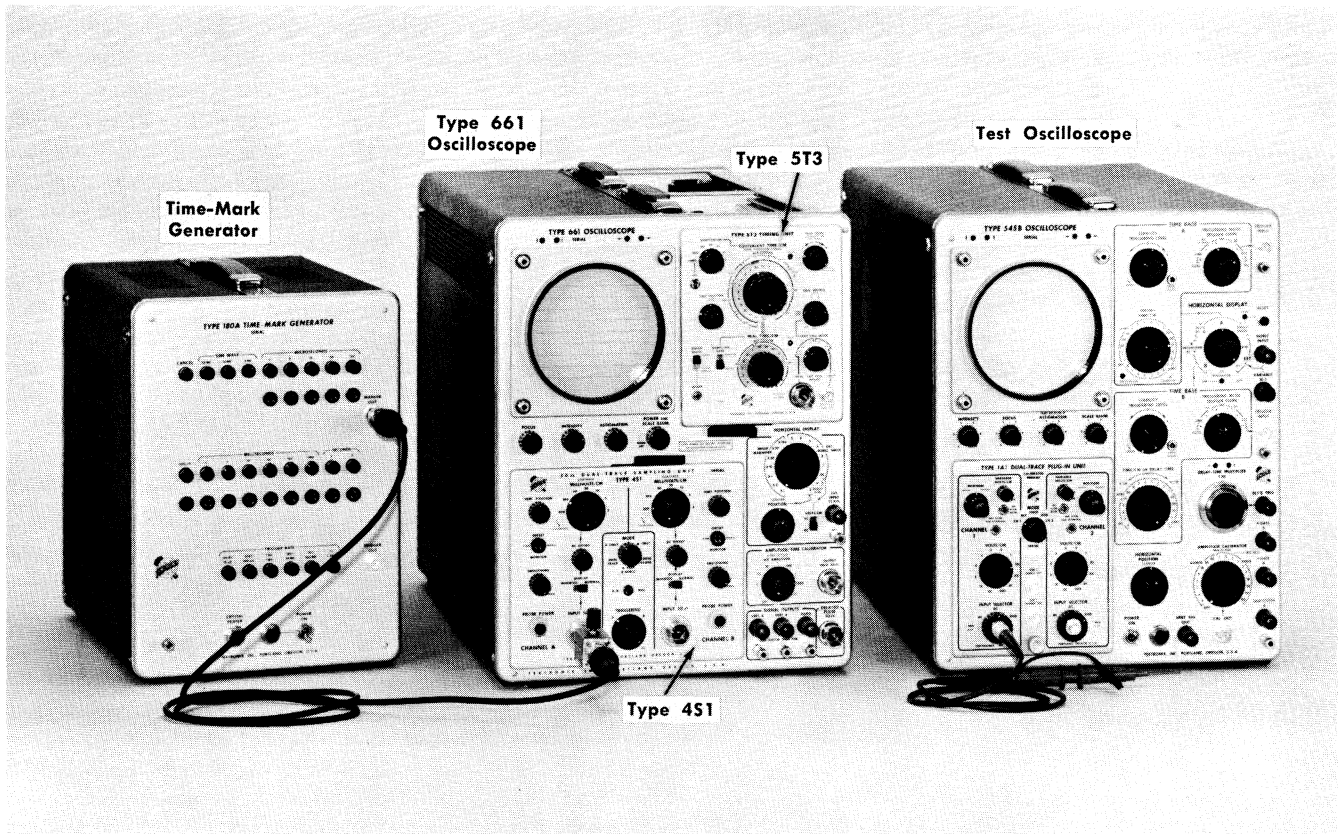

Fig. 5-20. Test equipment setup for steps 15 through 18.
- a. Test equipment setup is shown in Fig. 5-20.